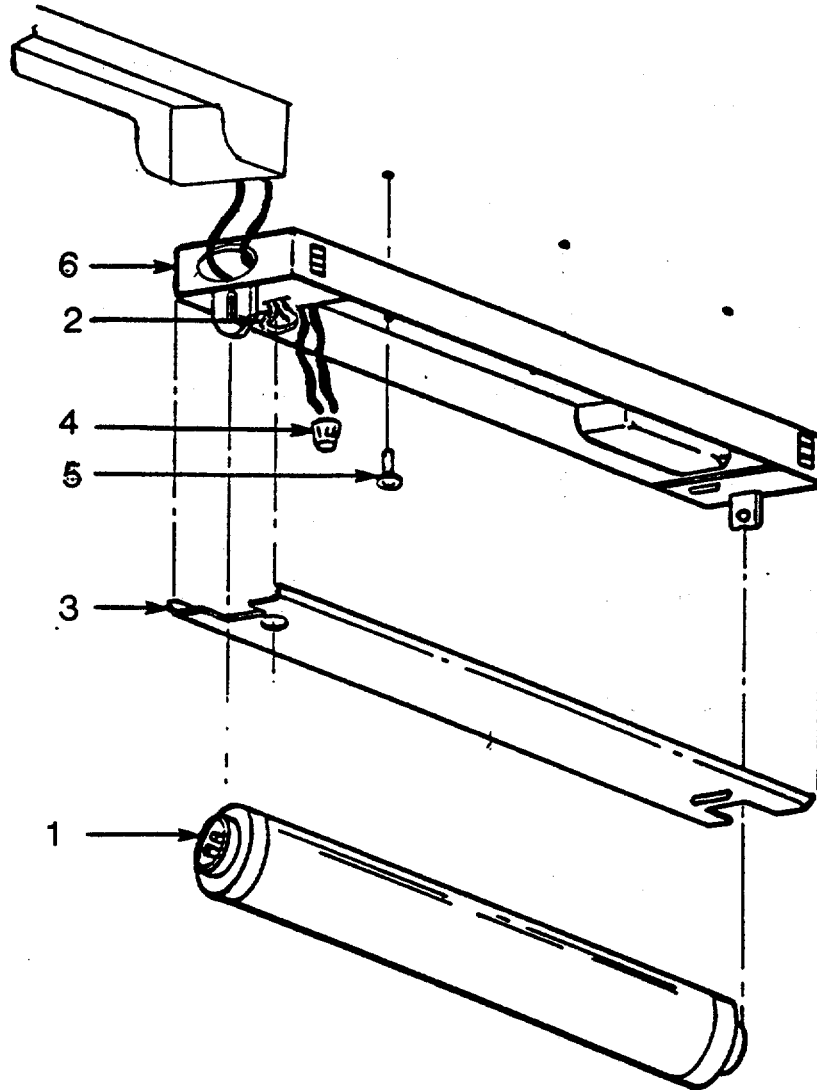

Figure 4-12. Safelight Assembly
a. Inspect. (See Figure 4-12.)
- (1) Check light fixture's fluorescent tubes for discoloration, inadequate illumination, and failure.
- (2) Check tube socket for security and damage.
- (3) Check light fixture for damage and incorrect attachment.
b. Replace. (See Figure 4-12.)**WARNING**